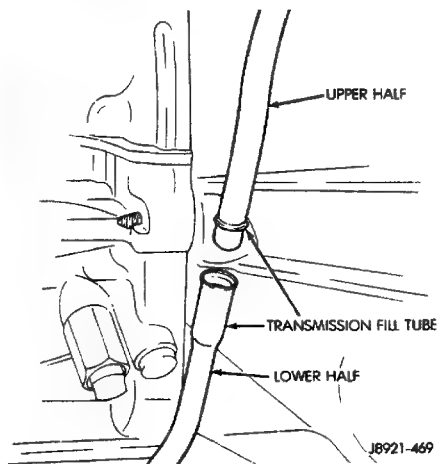

Fig. 49 Two-Piece Transmission Fill Tube
- (1) Raise vehicle.
- (2) Drain transmission fluid and reinstall oil pan drain plug.
- (3) Remove upper half of transmission fill tube (Fig. 49).
- (4) Disconnect cooler lines at transmission. Cooler lines have quick-disconnect fittings. Press fitting release tabs and pull cooler line and fitting out of case.
- (5) Support engine with safety stand and support transmission with jack.
- (6) Disconnect or remove following: transmission/transfer case shift linkage; necessary exhaust components; speedometer cable; front/rear propeller shaft; transmission wire harnesses; transfer case vacuum and wire harnesses.
- (7) Remove rear crossmember.
- (8) Disconnect transmission throttle cable at engine.
- (9) Disconnect necessary vacuum and fluid hoses.
- (10) Remove starter motor.
- (11) Remove converter-to-drive plate bolts.
- (12) Remove converter housing-to-engine bolts.